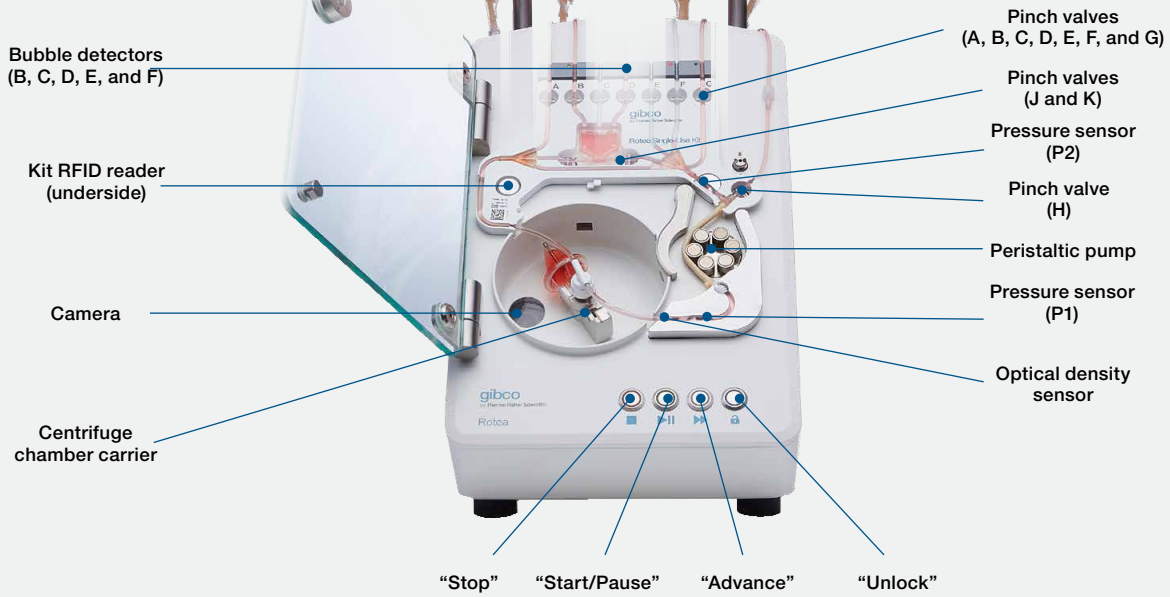

Figure 1. Detailed overview of the CTS Counterflow Centrifuge System.
2. Align the main body of the CTS Rotea Single-Use Kit with the two kit location buttons (Figure 1) on the CTS Rotea Counterflow Centrifugation System.